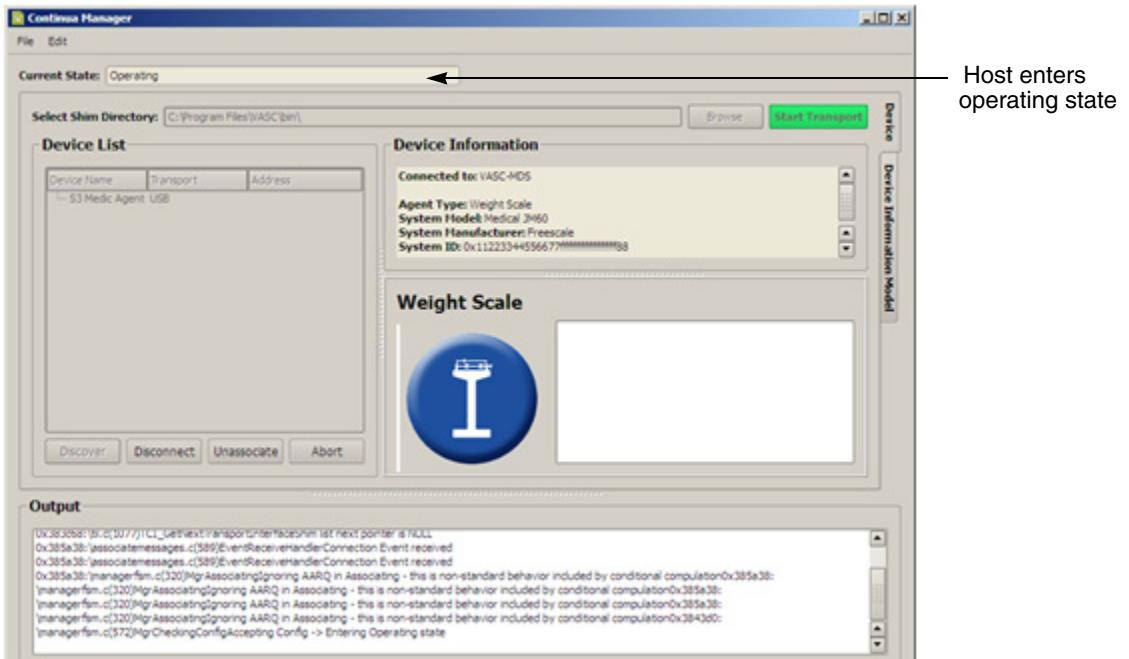

Figure E-7. Continua Application
- The Continua Manager now enters the operating state. The Continua application window appears as shown in Figure E-7.